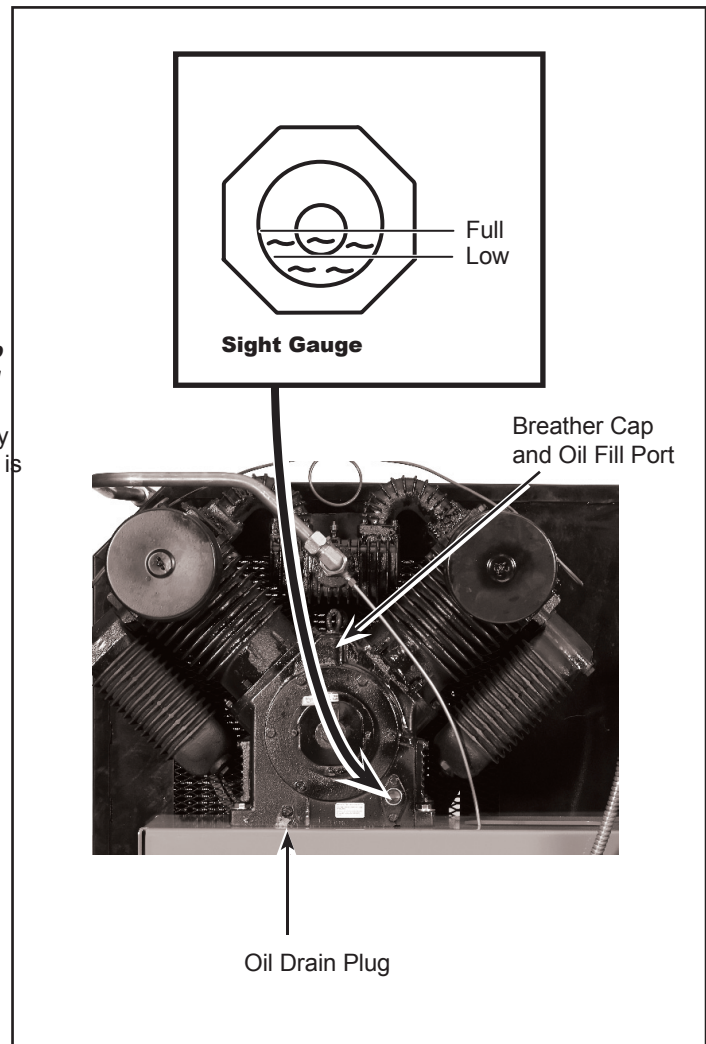

Figure 8
**⚠ CAUTION** *This unit contains no oil. Before operating compressor, fill to the center of the sight gauge (see Figure 8).*
**Fill the pump with oil to the center of the sight gauge using oil fill opening (see Figure 8). Do NOT fill the pump through the breather cap opening as this may cause oil to leak and spray out during operation.**